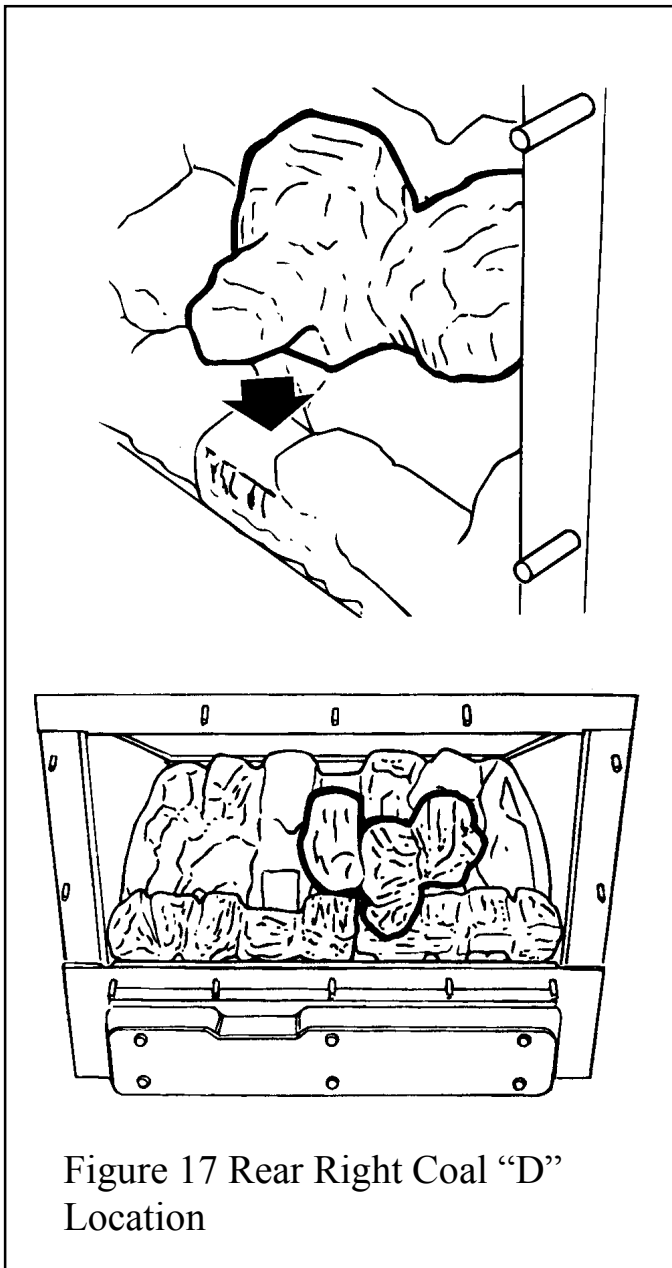

Figure 17 Rear Right Coal "D"
10.5 Place the rear right coal (embossed 'D' underneath) in position as shown in figure 17.